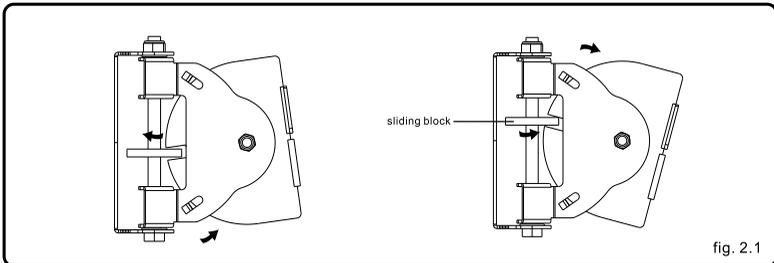

fig. 2.1
- Use the sliding block to adjust the desired angle, the pitching angle can be adjusted between  $-20^{\circ}$ ~ $20^{\circ}$ , as shown in fig 2.1.